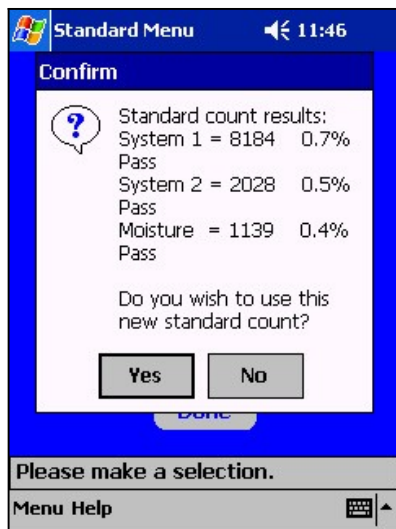

Figure 4–3. Standard Count Results
- ▶ If the standard count *fails* and it has been *less than a month* since the last standard count, but the count was performed correctly and the *failure is less than 5%*, press the **<Yes>** button. If the *failure is more than 5%*, press the **<No>** button. Ensure that the gauge is properly positioned on the reference standard block (Figure 4–2). Verify that the standard count site meets the criteria listed on page 4–2. Take another standard count and accept it if it fails by less than 5%. If the standard count fails four times, perform a stat test (see page C–2) and a drift test (see page C–5), and then contact your Troxler representative.